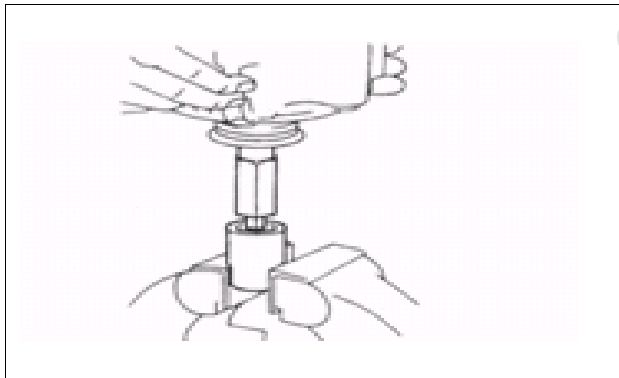

Figure 414
Put special tool (C) in a vise (see Fig. 414).